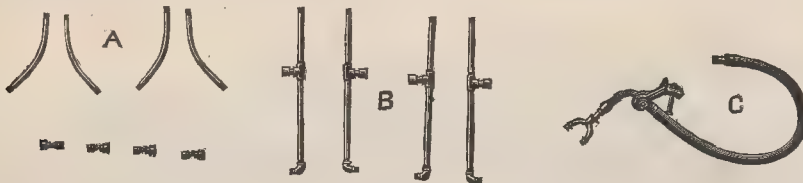

Fig. 219
**Tomato Spraying Attachment, Fig. 219.**—In further development of our Sprayer, we have met a demand for devices for spraying tomatoes as shown herewith. To make use of these it is necessary to have sprayer equipped with tongue, spraying one or two rows, the number depending on the sizes of the vines.